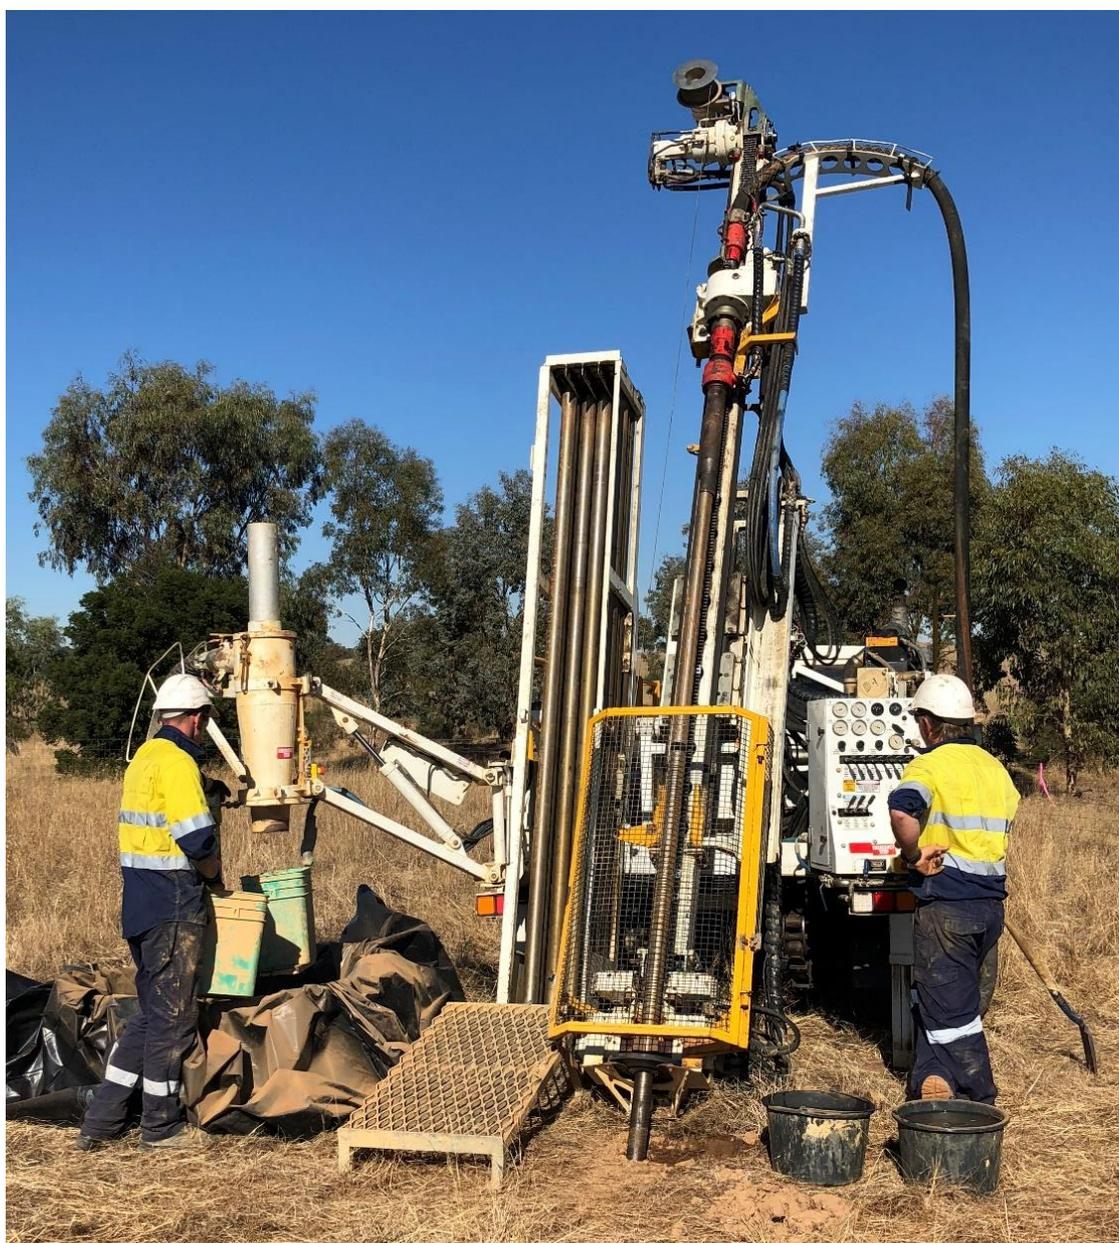

Figure 2: Air-core drilling at St Arnaud, May 2018
Navarre has completed four lines (T1 – T4) of reconnaissance air core (AC) drilling totalling 6,512 metres across 80 holes in its maiden drill program at the St Arnaud Gold Project (Figure 2). Drilling was designed to test for a potential high-grade gold system of similar style to the 6 million-ounce Fosterville Gold Project, located 130km to the east.